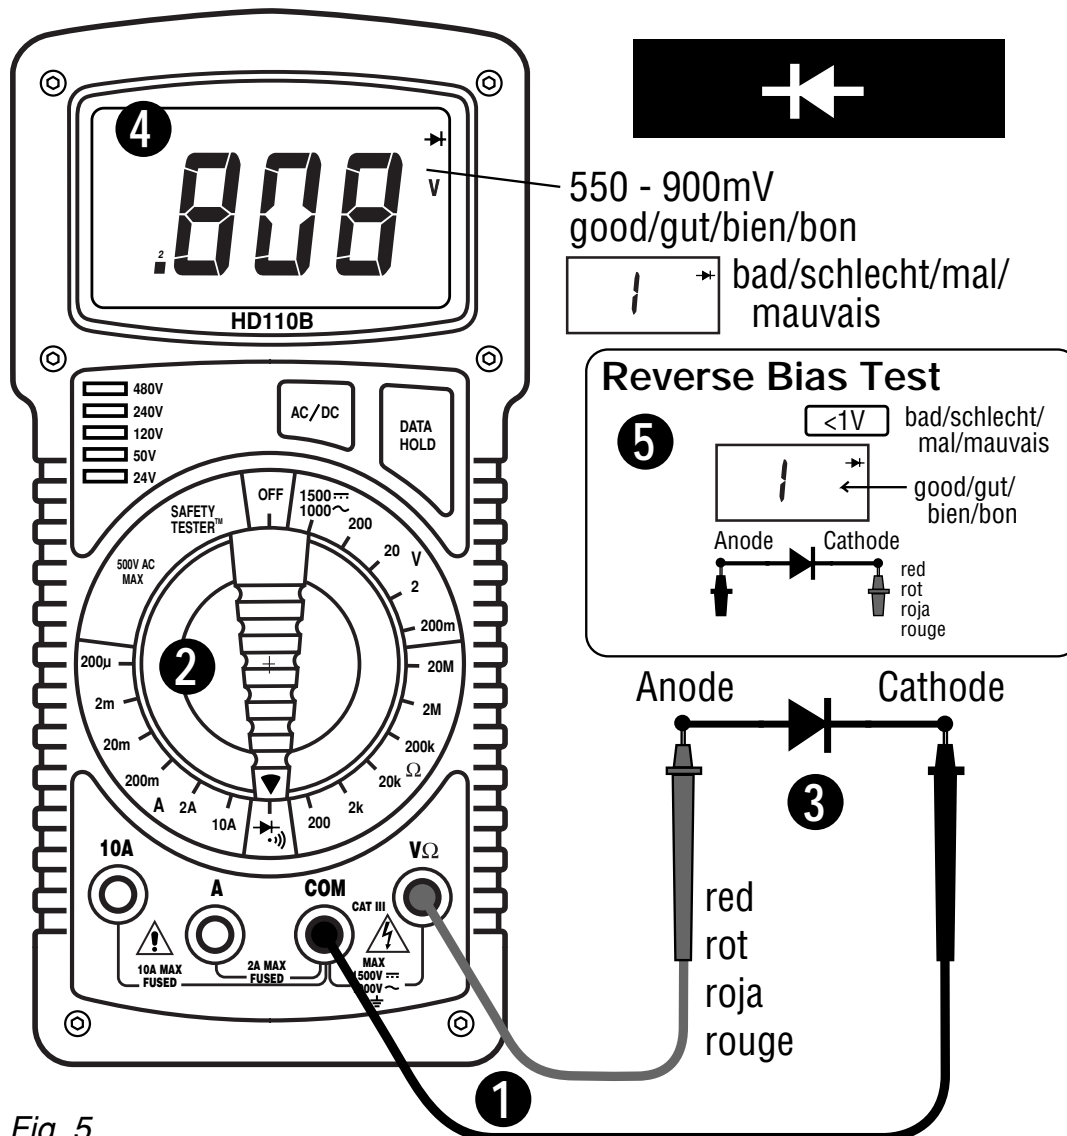

Fig. 5
DIODE AND CONTINUITY TEST (See Fig. 5)
The diode test measures the voltage drop across a diode junction. ❶ Connect the test leads as shown in figure 5. ❷ Set the Function/range switch to $\rightarrow \text{+} \text{V}$. ❸ Apply probe tip of red lead to the anode and of black lead to the cathode of the diode. ❹ The meter's display indicates the forward voltage drop (approx. 0.6V for silicon diode or 0.4V for germanium diode). An open diode is indicated by "1". ❺ Reverse test lead connections to the
D • Dioden- und Transistortest (Siehe Fig. 5)
E • Comprobación de diodos y transistores (vea fig. 5)
F • Test de Diodes et de Transistors (voir fig. 5)